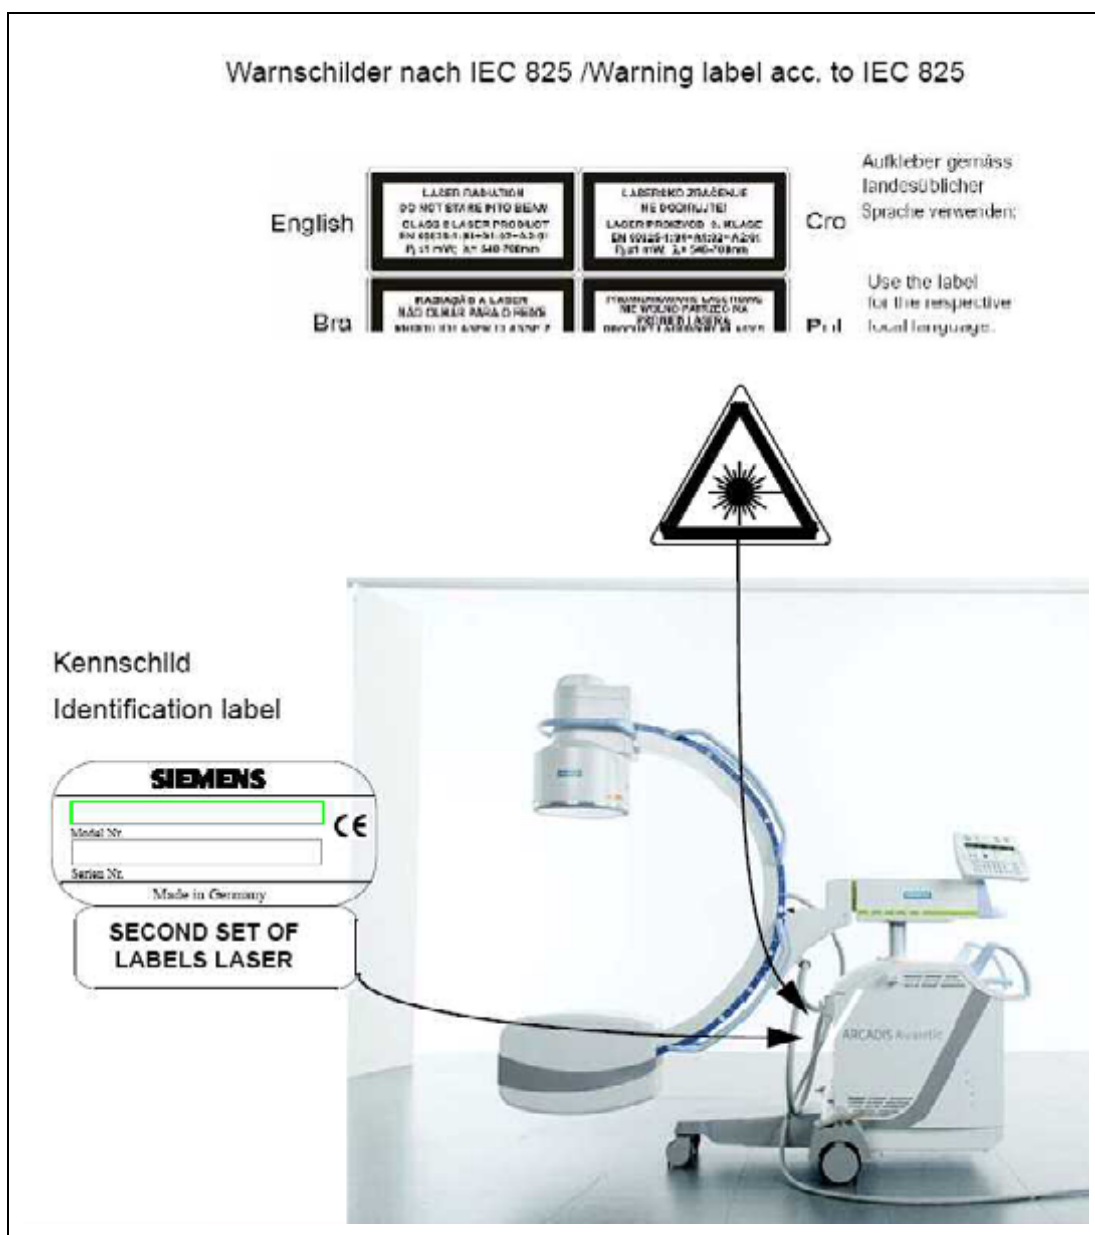

Fig. 6: Label_not_usa
- Check the warning label according to (Fig. 6 / p. 15).